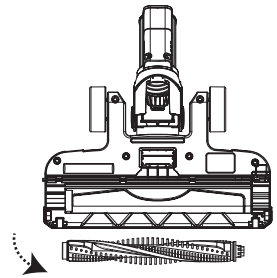

Fig. 21
4. Lift out the roller brush (fig. 21) and remove any thread, fluff or other obstructions. The brush roller can also be washed under running water if needed. Allow to fully dry.